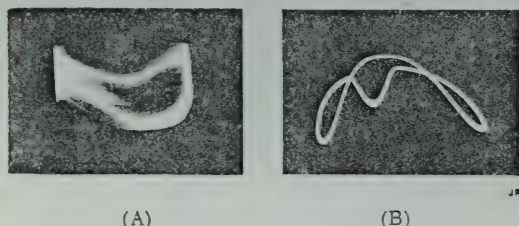

Figure 2-5. Typical Oscillogram,
f. Figure 2-5 shows oscilloscope presentation obtained (A) while measuring distortion in amplifier where distortion level is of same order of magnitude as hum, and (B) while measuring distortion in amplifier driven at point of overload. Notch in pattern is caused by small grid current and will increase sharply with small increase in drive.